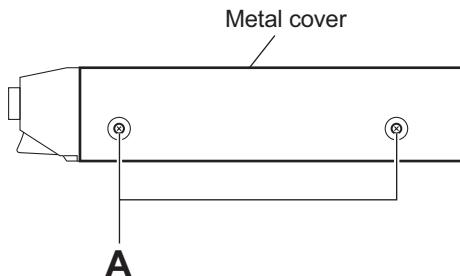

Fig.1
##### 3.1.1 Removing the metal cover (See Figs.1 to 4)
- (1) From the right and left sides of the main body, remove the four screws **A** attaching the metal cover. (See Figs.1 and 2.)